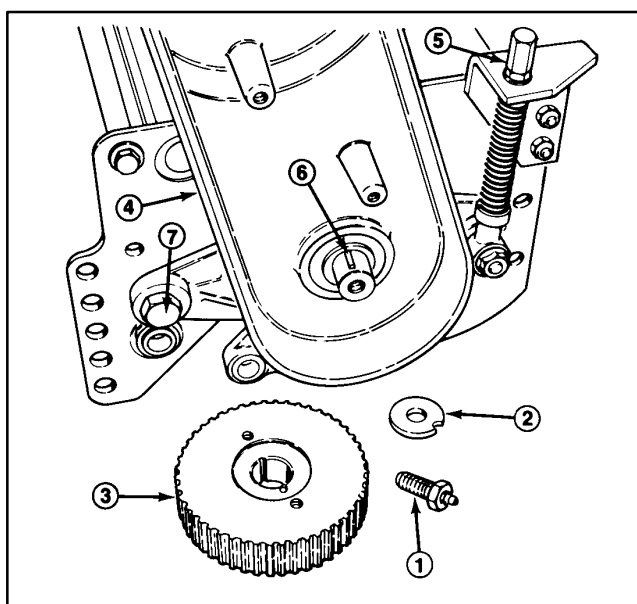

Figure 22
5. Disassemble the cover from the drive housing and remove the drive belt from the housing (Fig. 22).
6. Remove the reel capscrew, toothed washer and pulley washer from the reel shaft (Fig. 22). (Note: Capscrew is assembled with a thread locking compound).
7. Using a puller, remove the driven pulley from the reel shaft (Fig. 22). Remove the woodruff key from the reel shaft.
8. Remove the adjustment assembly and cone nut, belleville washer and shoulder bolt securing the housing to the side plate (Fig. 22). Remove the housing.